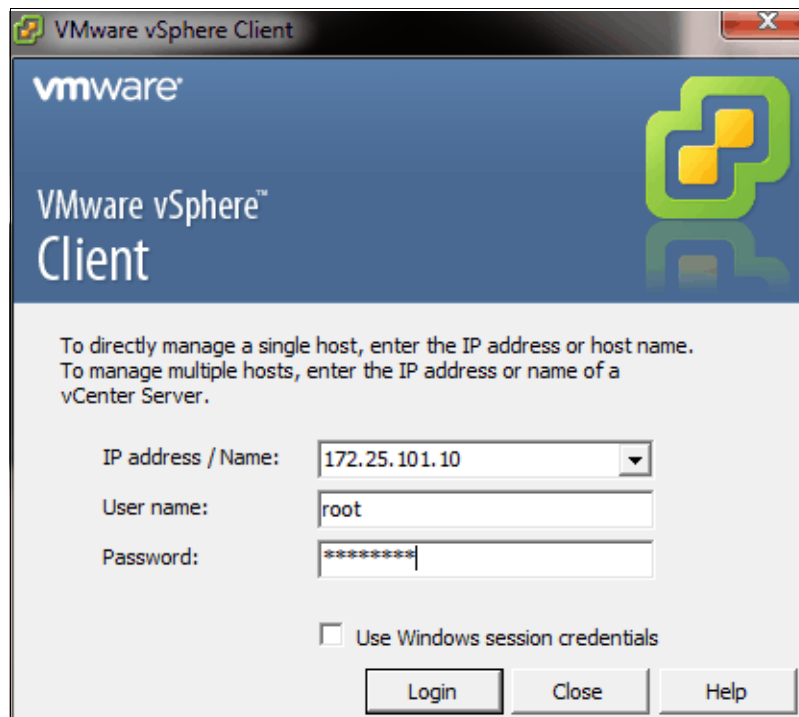

Figure 5-13 Logging in to vSphere client
1. Log in using the vSphere client that is shown in Figure 5-13.